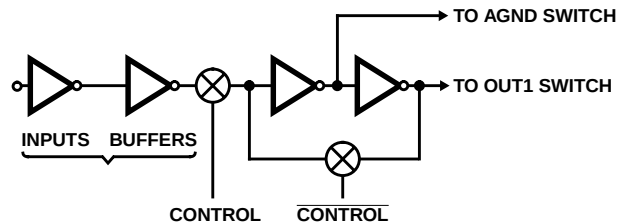
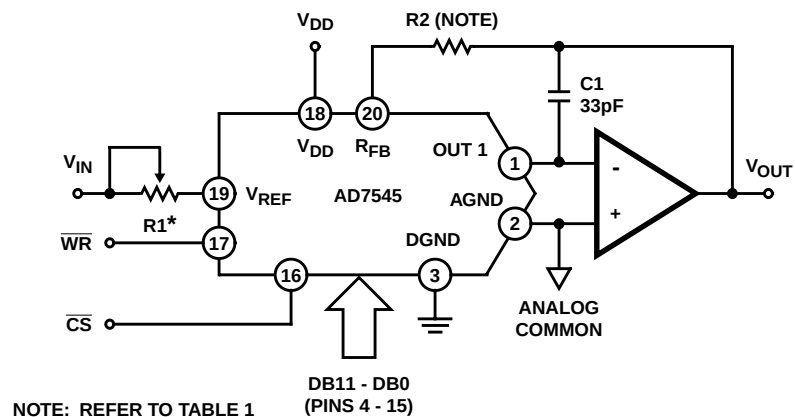

FIGURE 4. DIGITAL INPUT STRUCTURE
FIGURE 5. UNIPOLAR BINARY OPERATION
|                                                                                 | K, B    | Gain Error is AdjustableUsing the Circuits ofFigures 4 and 5 (Note 3)                                      | -                     | -   | ±10  | -                      | -   | ±15  | LSB               |
Figure 4 shows the digital structure for one bit. The digital signals CONTROL and  $\overline{CONTROL}$  are generated from  $\overline{CS}$  and  $\overline{WR}$ .
Figures 5 and 6 show simple unipolar and bipolar circuits using the AD7545. Resistor R1 is used to trim for full scale. Capacitor C1 provides phase compensation and helps prevent overshoot and ringing when using high speed op amps. Note that the circuits of Figures 5 and 6 have constant input impedance at the  $V_{REF}$  terminal.
The circuit of Figure 4 can either be used as a fixed reference D/A converter so that it provides an analog output voltage in the range 0V to  $-V_{IN}$  (note the inversion introduced by the op amp) or  $V_{IN}$  can be an AC signal in which case the circuit behaves as an attenuator (2-Quadrant Multiplier).  $V_{IN}$  can be any voltage in the range  $-20V \leq V_{IN} \leq +20V$  (provided the op amp can handle such voltages) since  $V_{REF}$  is permitted to exceed  $V_{DD}$ . Table 2 shows the code relationship for the circuit of Figure 4.
Figure 5 and Table 3 illustrate the recommended circuit and code relationship for bipolar operation. The D/A function itself uses offset binary code and inverter  $U_1$  on the MSB line converts 2's complement input code to offset binary code. If appropriate, inversion of the MSB may be done in software using an exclusive -OR instruction and the inverter omitted. R3, R4 and R5 must be selected to match within 0.01% and they should be the same type of resistor (preferably wire-wound or metal foil), so that their temperature coefficients match. Mismatch of R3 value to R4 causes both offset and full scale error. Mismatch of R5 to R4 and R3 causes full scale error.
The choice of the operational amplifiers in Figure 4 and Figure 5 depends on the application and the trade off between required precision and speed. Below is a list of operational amplifiers which are good candidates for many applications. The main selection criteria for these operational amplifiers is to have low  $V_{OS}$ , low  $V_{OS}$  drift, low bias current and low settling time.
**TABLE 2. UNIPOLAR BINARY CODE TABLE FOR CIRCUIT OF FIGURE 4**
**TABLE 3. 2'S COMPLEMENT CODE TABLE FOR CIRCUIT OF FIGURE 5**